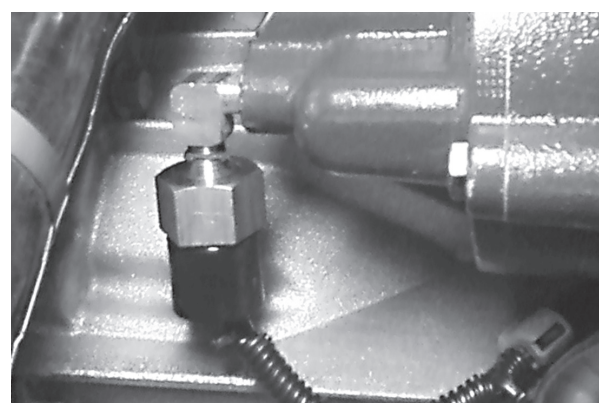

Figure 8. Pressure Switch installed using second NPT 90° elbow for use with G, R, and Z activation installation.
**NOTE:** For the "G", "R", and "Z" activation installation, the second NPT 90° elbow is included in the activation kit to relocate the pressure switch away from the vehicle exhaust on gas applications. The male end of this elbow should be inserted in the port and tightened so the female end is pointing downward. The pressure switch can then be inserted in the female end of the elbow. (See Figure 8)